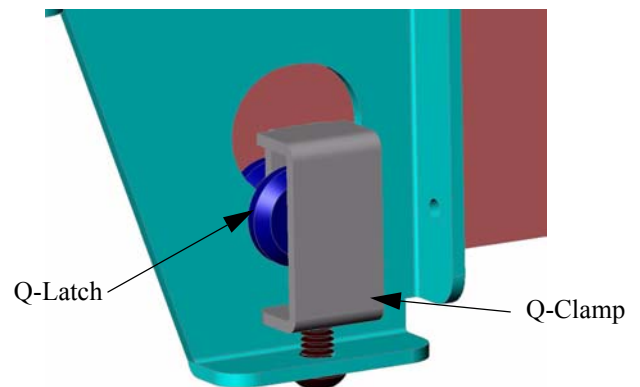

Figure 8. Install Q-Locks
6. Lock the display in place by installing a Q-clamp on each side of the bottom of face plate as shown in Figure 8.